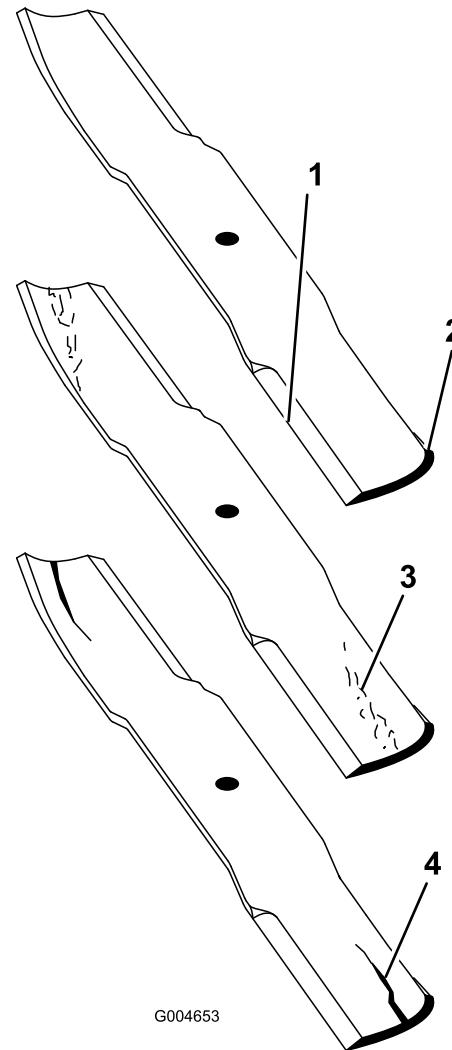

Figure 26
3. Examine the cutting ends of the blade carefully, especially where the flat and curved parts of the blade meet (Figure 26).
**Note:** Because sand and abrasive material can wear away the metal that connects the flat and curved parts of the blade, check the blade before using the mower. If you notice wear (Figure 26), replace the blade.